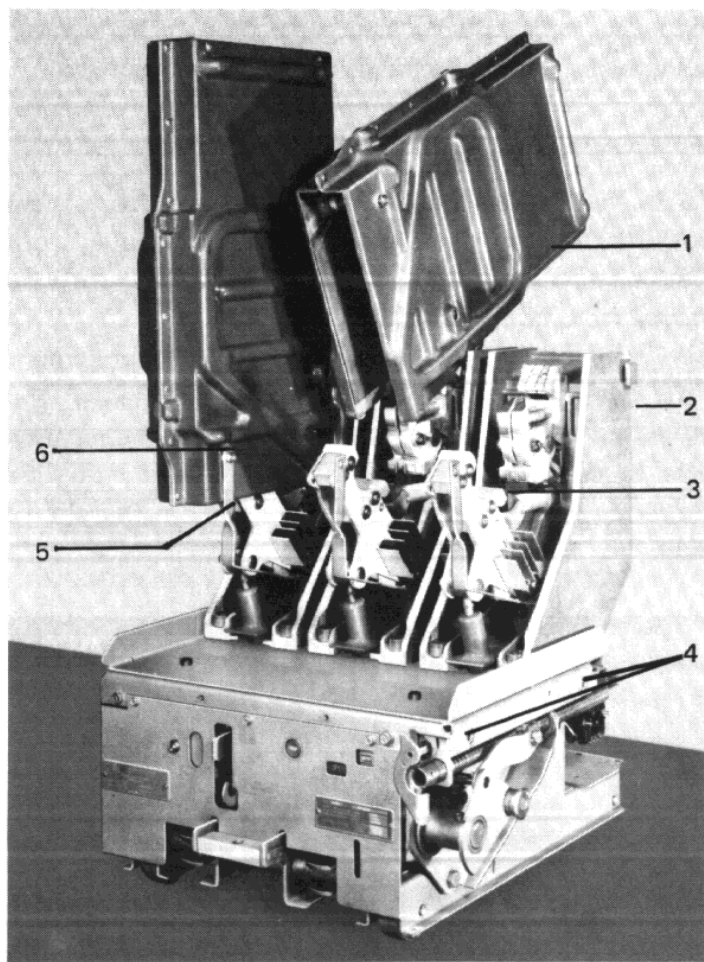
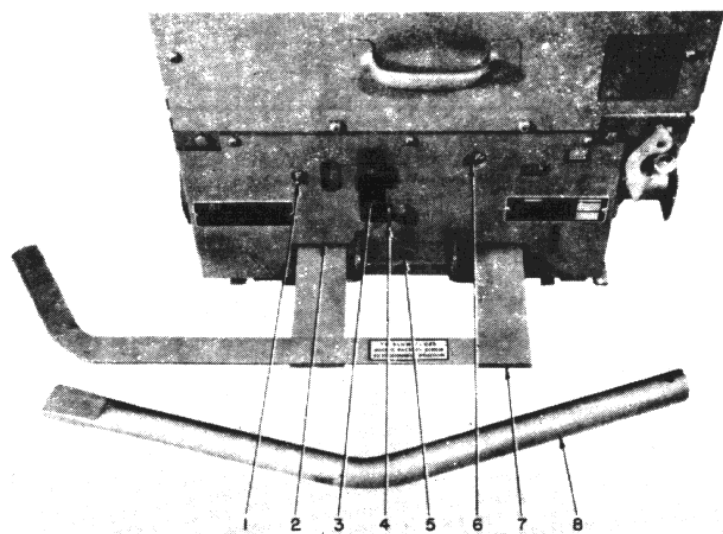

Fig. 1 — View Showing Arc Chute and Contact Structure
Fig. 2 — Front View of Control Panel
IF IT IS NECESSARY TO RAISE OR MOVE THE BREAKER, ATTACH THE LIFTING YOKE AT POINTS 4 (FIGURE 1), OR A FIFTH WHEEL AT POINT 5 (FIGURE 2) TO TRANSPORT THE BREAKER AS REQUIRED.
### 3.4 REMOVING ARC CHUTES (See Figure 1)
### 3.7 MANUAL SLOW-CLOSE TO CHECK CONTACT PRESSURE (Figure 2)
### 3.8 INSTALLING ARC CHUTES (See Figure 1)
3. Lift the barrier slightly by its handle at the lower front (Figure 2) to permit the rear brace of the barrier to drop down behind the arc chutes.
### 3.10 INSTALLING CIRCUIT BREAKER INTO COMPARTMENT (See Figures 2 and 3)
1. Turn motor disconnect switch (if supplied) (1, Figure 2) to "OFF" position.
3. Engage fifth wheel with hole guide (5, Figure 2) and push circuit breaker into compartment until stopped. (If closing springs were left in charged condition, they will automatically discharge.)
6. With the circuit breaker racked to "TEST" position, check for proper operation by operating all possible means of opening and closing. This includes control switches, relays, etc. Turn motor disconnect switch (1, Figure 2) to "ON" position to charge the closing springs, and operate the breaker as required. If motor disconnect switch (1, Figure 2) is not provided, springs will automatically charge when approaching "TEST" position.